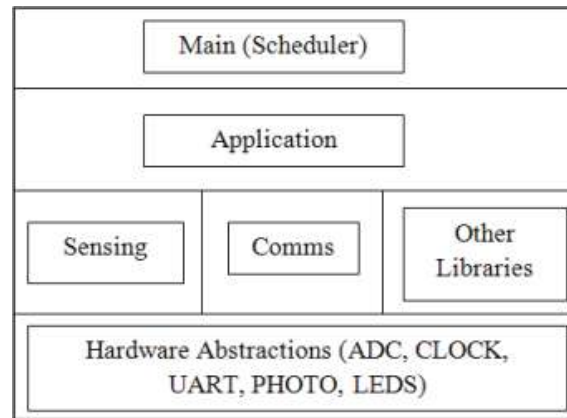

Figure 5.2 TinyOS Architecture
- The design of components makes it easy to connect various components in the form of function calls. The architecture of TinyOS shown in Figure 5.2.